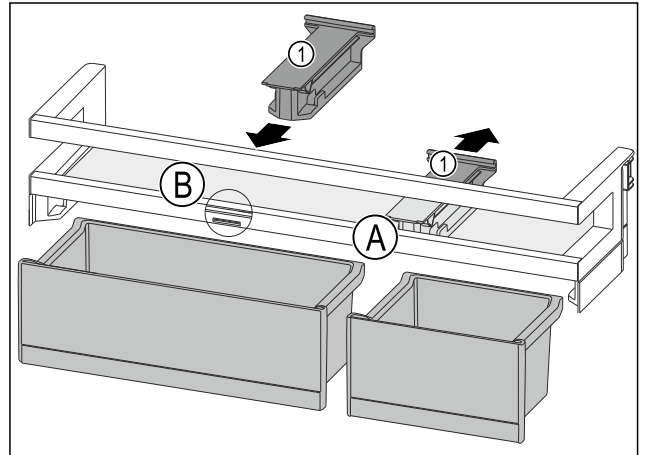

Fig. 193
- ▶ Take off the holding part Fig. 193 (1) in position Fig. 193 (A) backwards.
- ▶ Insert the holding part Fig. 193 (1) in position Fig. 193 (B).